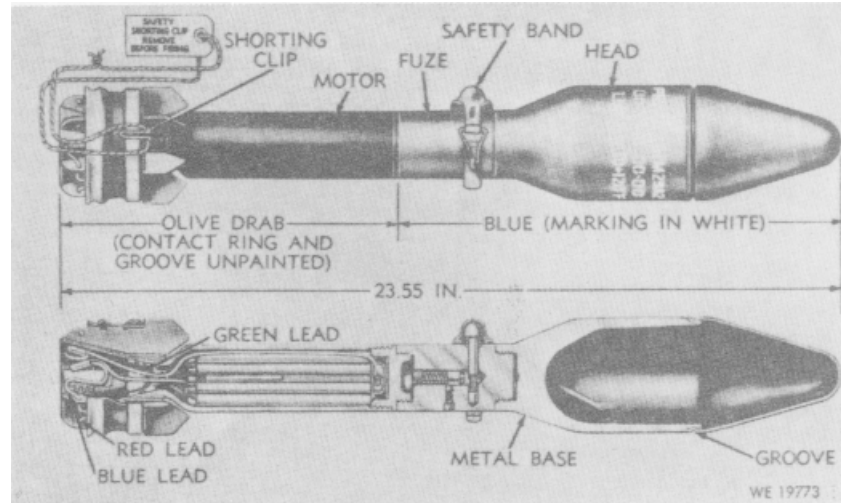

Figure 4-3. 3.5-Inch Practice Rocket, M29A2.
c. The practice rocket (fig. 4-3) which simulates the service rockets, has an inert head and is intended for target practice purposes.